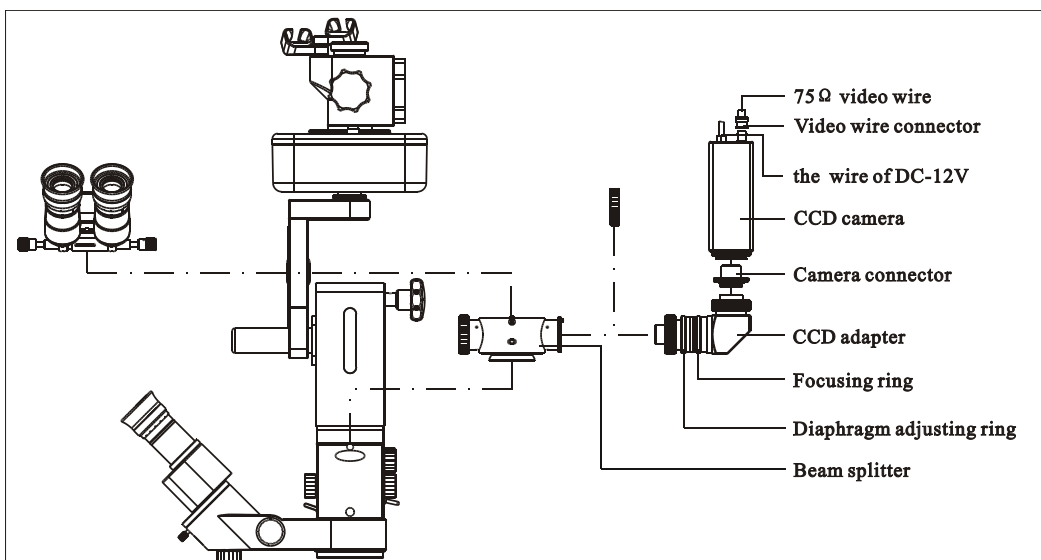

Fig.5
3.1.2 Make up the two borders and the foot-support indicated in Fig.5. Screw the hexagon screws into the six fixing holes and tighten them with the hexagon spanner. Restitute the two fixing holes' decorative covers taken off anteriorly.
Finally fit the eyepiece to the beam splitter(indicated in Fig. 5).
- 5.3.13 Assemble the CCD according to the above-mentioned process if it is needed. The CCD device is indicated in Fig.5.